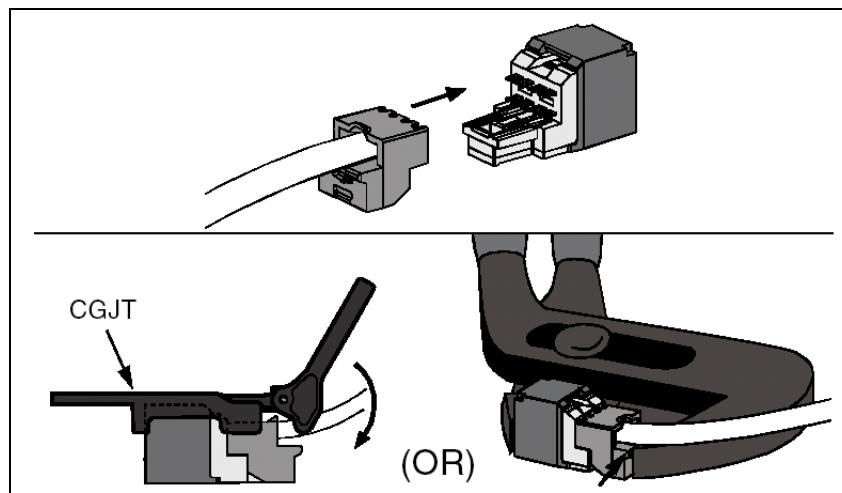

Figure 6
- Slide the front of the Mini-Jack into the backing, making sure that it is straight as shown in the top image of Figure 6.
- Use the Mini-Jack tool to press the two pieces together until they snap as shown in the bottom image of Figure 6. The cable has